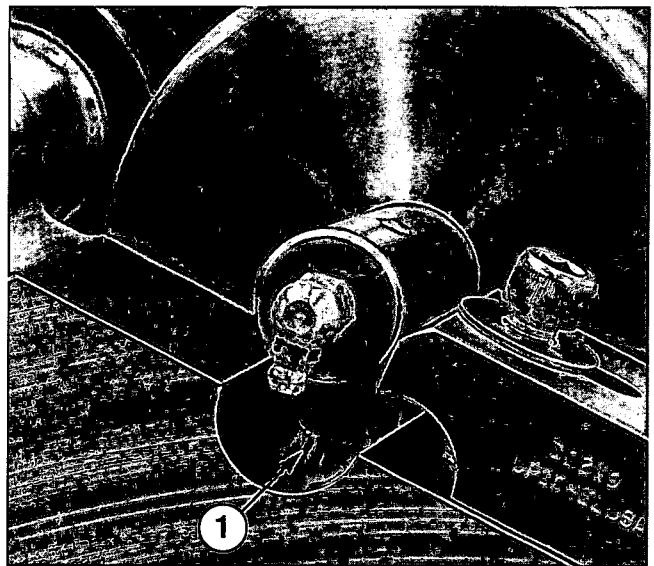

Figure 33 — Installation of 7, 8, 10, 12, 14 and 16 knife spindles. (1) Side Frame Pin.
4. **Install crosscut knife spindle:** (Dicing unit in maintenance position.) Place spindle in side frames so locating hole on shaft fits onto pin in left side frame (Figure 33). Knife edges should face up. Slide caps over shaft and tighten screws. Do not overtighten.